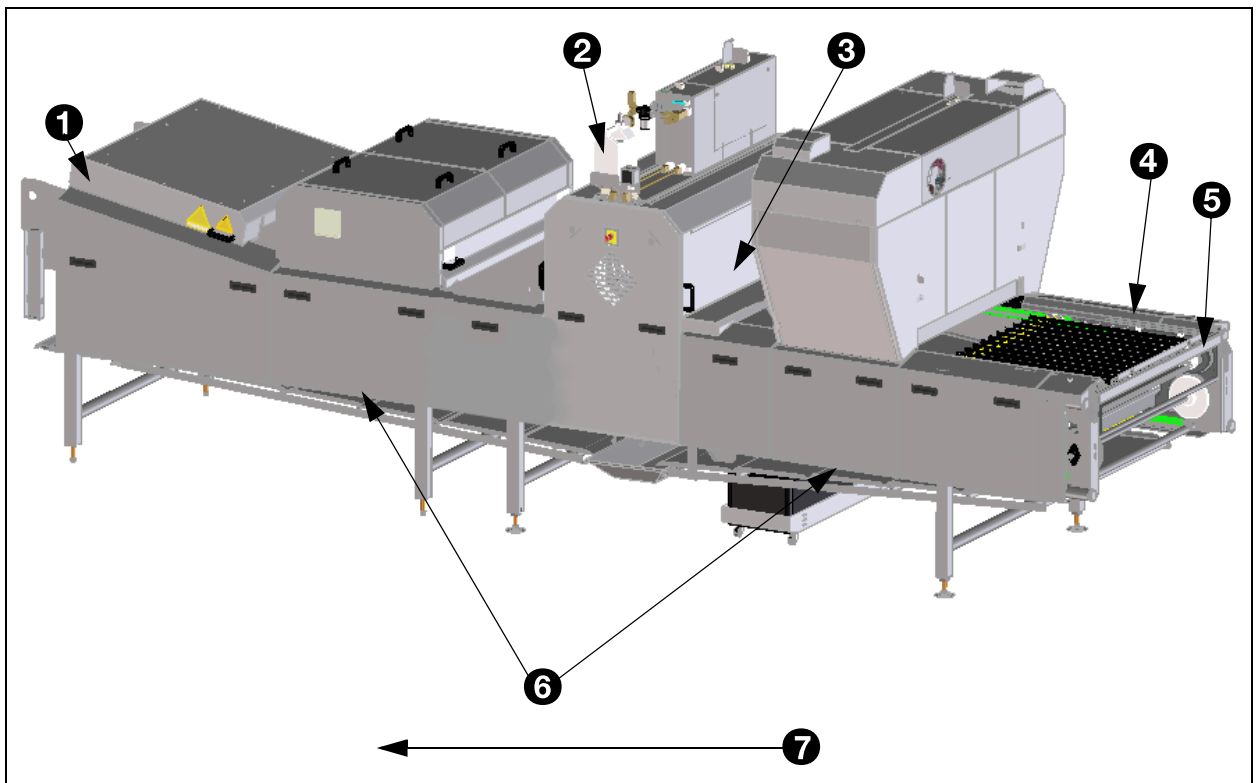

Fig. 27 - Overview of infeed unit
The left and right side are determined on the basis of the direction of the movement of eggs. In fig. 27 the direction of movement of the eggs is indicated with the arrow (7).